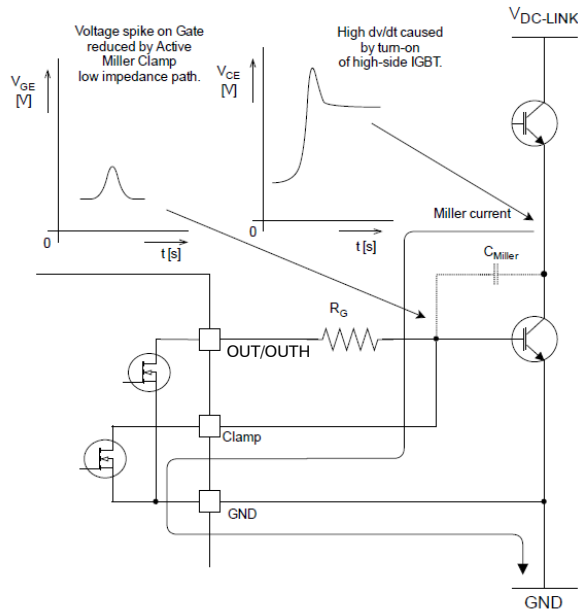

Figure 28. Current Path with Miller Clamp Protection
- In Unipolar power supply the driver is typically supplied with a positive voltage of 15 V at V_{DD2} . Unwanted turn-on caused by the internal IGBT/MOSFET Miller capacitance could be prevented by Active Miller Clamp function (variant A/D/F). CLAMP output should be directly connected to IGBT/MOSFET gate (Figure 28)